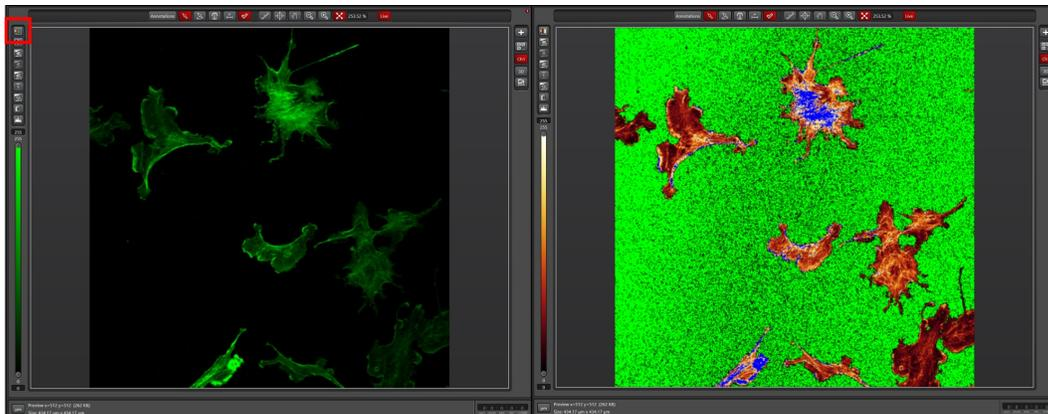

Figure 11: **LEFT:** Pseud-colored image. **RIGHT:** Over/under saturated pixels displayed.
3. Select the **Over/Under Saturation** display for the live images. See Figure: 11.